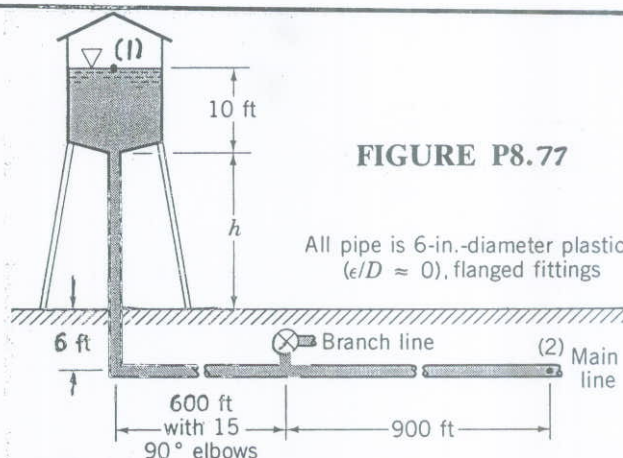

FIGURE P8.77
8.77 The pressure at section (2) shown in Fig. P8.77 is not to fall below 60 psi when the flowrate from the tank varies from 0 to 1.0 cfs and the branch line is shut off. Determine the minimum height,  $h$ , of the water tank under the assumption that (a) minor losses are negligible, (b) minor losses are not negligible.